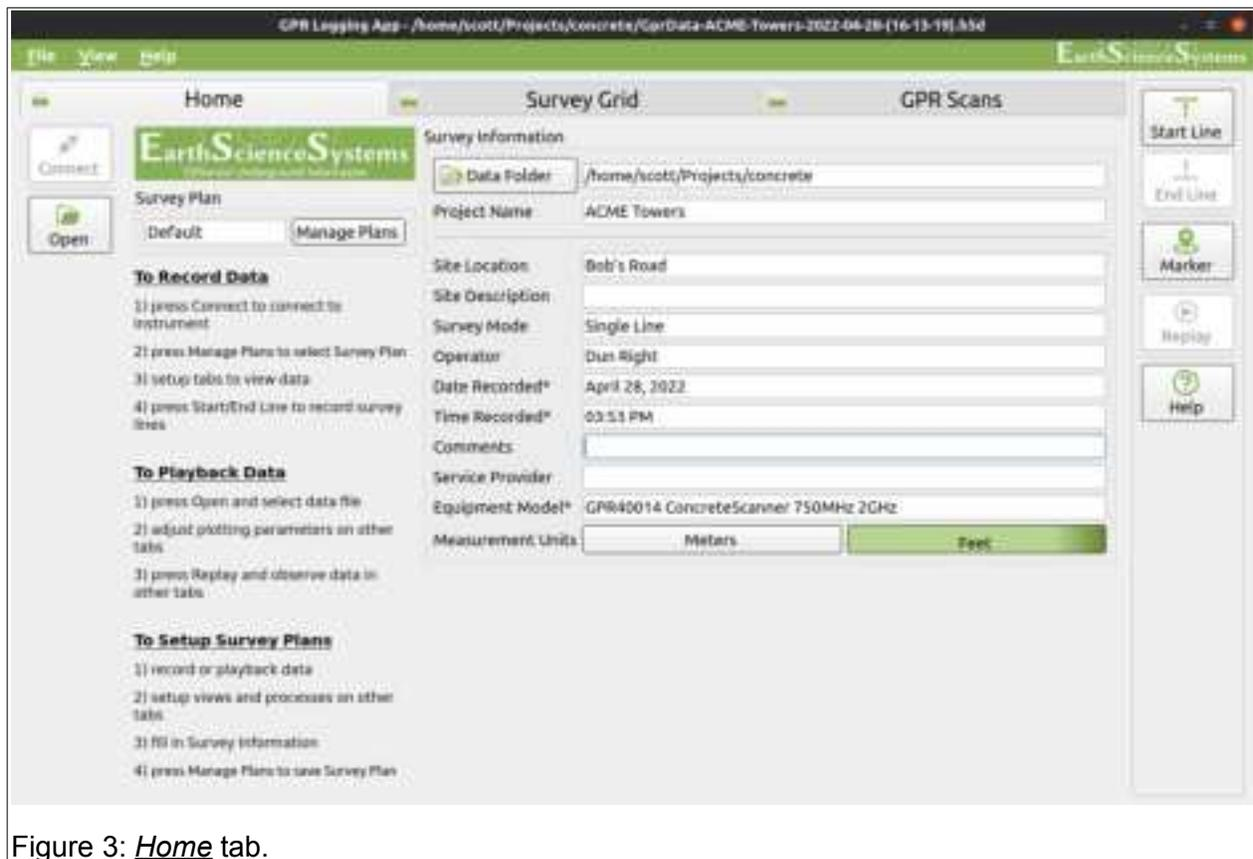

Figure 3: Home tab.
Surveyor Pro has many more features than Surveyor Mobile, but requires a Windows PC. After opening the Surveyor Pro acquisition program, the Home tab will be displayed (see Figure 3). Here the user will specify project specific information and conduct a new survey, or open previously collected data to replay.
6. Enter the jobsite information into the Home tab (see Figure 3). Then click Manage Plans to save this information if desired.
6. Enter the job site information into the *Home* tab (see Figure 3). Then click *Manage Plans* to save this information if desired. Lastly, specify a data storage directory by clicking the *Data Folder* button.